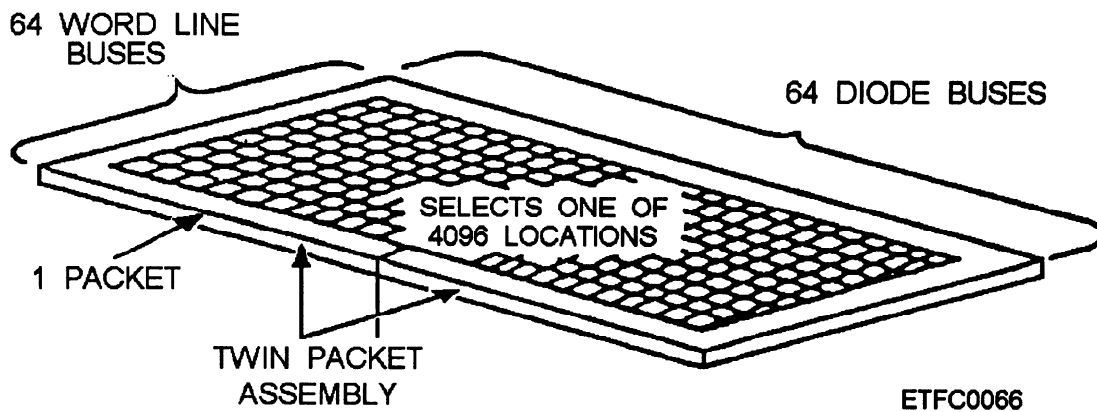

Figure 6-18.—Example portion of a film array.
**Matrices.** —The mated film spots are organized into matrices called film arrays to simplify addressing, reading, and writing operations. Figure 6-18 is an